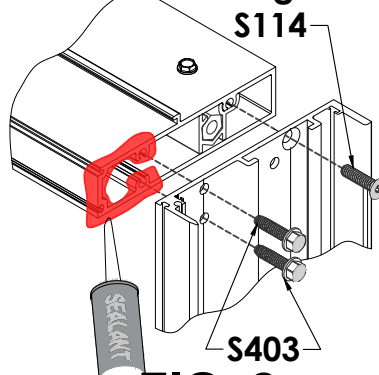

FIG. 2
- g. Seal ends of horizontal prior to attaching to the verticals. Attach horizontal members to vertical using **S403** and **S114** fasteners. **See Fig. 2**